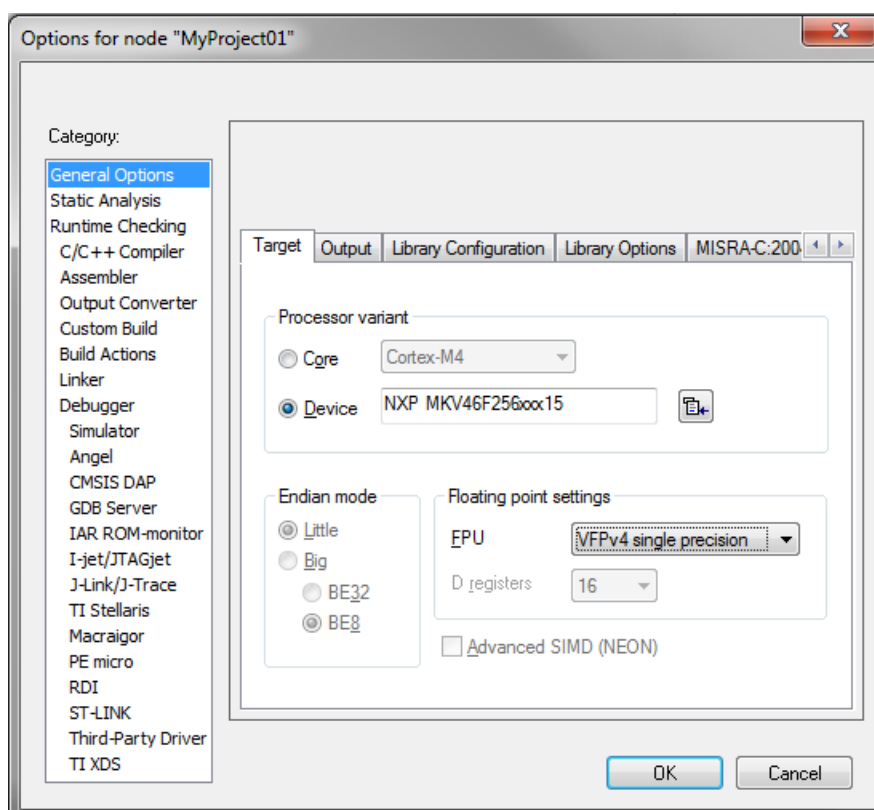

Figure 1-36. Options dialog
6. In the Target tab, select the Device option, and click the button next to the dialog to select the MCU. In this example, select NXP > KV4x > NXP MKV46F256xxx15. Select VFPv4 single precision in the FPU option. Click OK. See Figure 1-36.